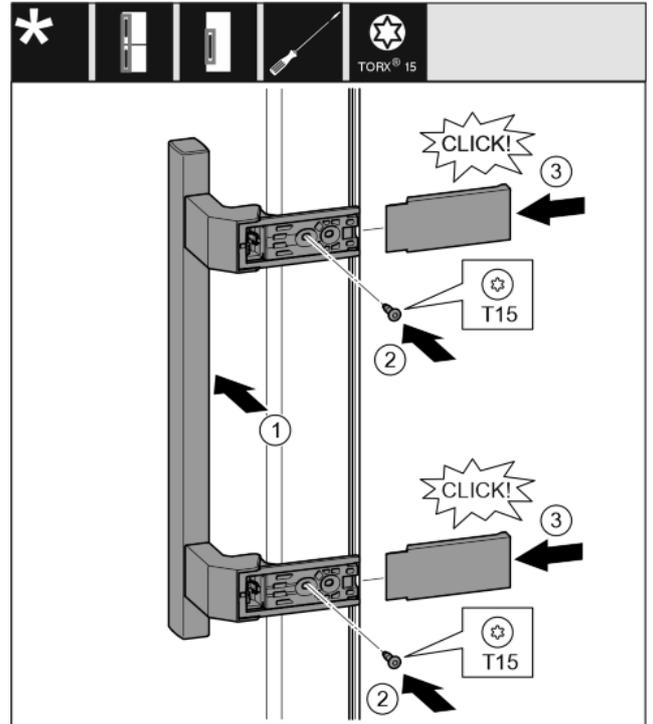

Fig. 31
- ▶ Position the handle on the other side. Fig. 31 (1)
- ▶ Tighten the screw with a T15 screwdriver. Fig. 31 (2)
- ▶ Position the covers on the side and push them on. Fig. 31 (3)